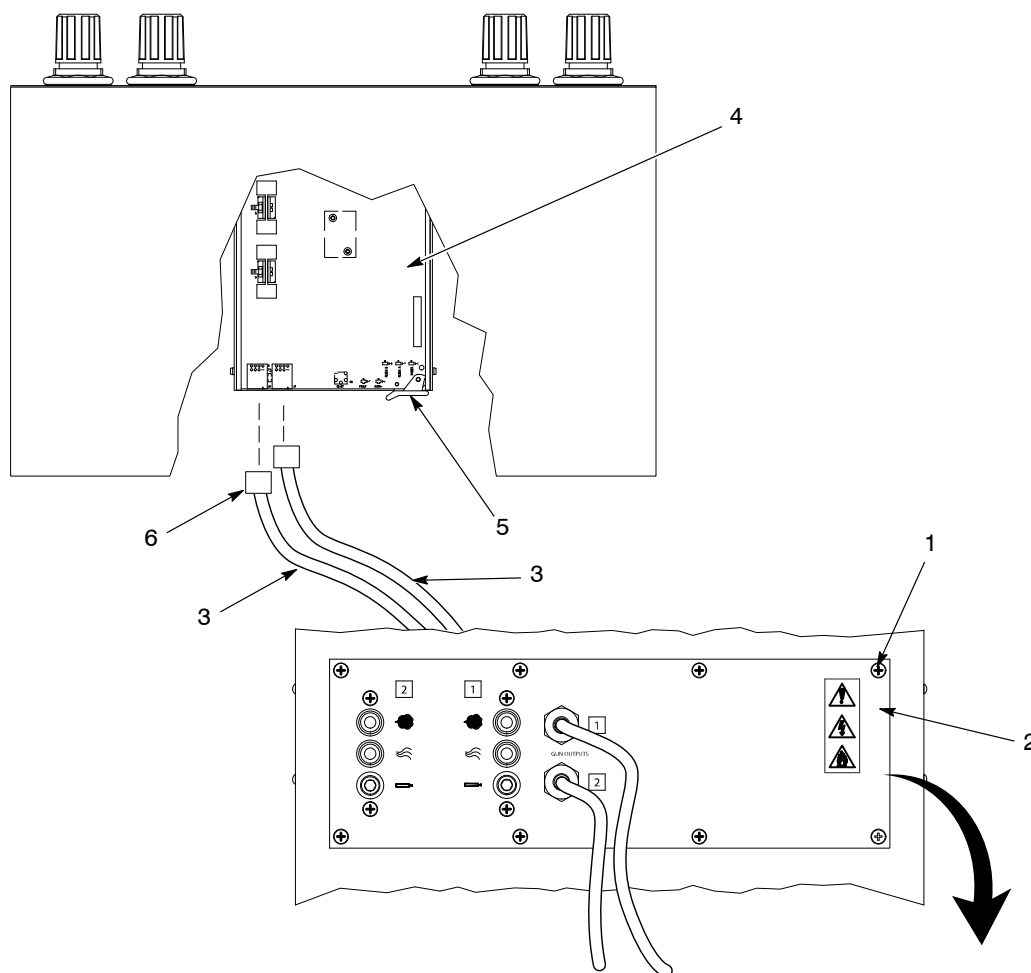

Figure 6-4 Gun Board Replacement
1. See Figure 6-4. Remove the eight screws (1) securing the rear panel (2) to the cabinet. Lay the rear panel flat.
2. Disconnect the one or two gun cables or adapters (3) from the end of the gun board (4).
3. Open the latch (5) on the right hand corner and pull the gun board from the cabinet.
5. Connect the eight-pin connectors (6) on the gun cables to the new gun board. The top spray gun cable should connect in the right-hand (odd) connector (J3), the bottom spray gun cable should connect in the left-hand (even) connector (J4).